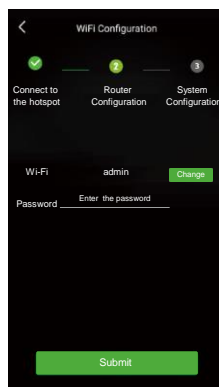
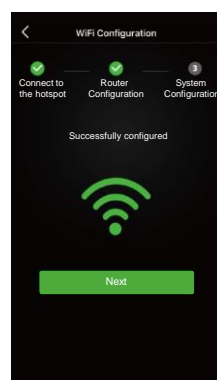

Figure 4.7 WiFi Setting
Figure 4.8 Configuration Success
**Step 4** Enter the WiFi account and password and then save it, the configuration is successful, click "next", as shown in Figure 4.7 and Figure 4.8.